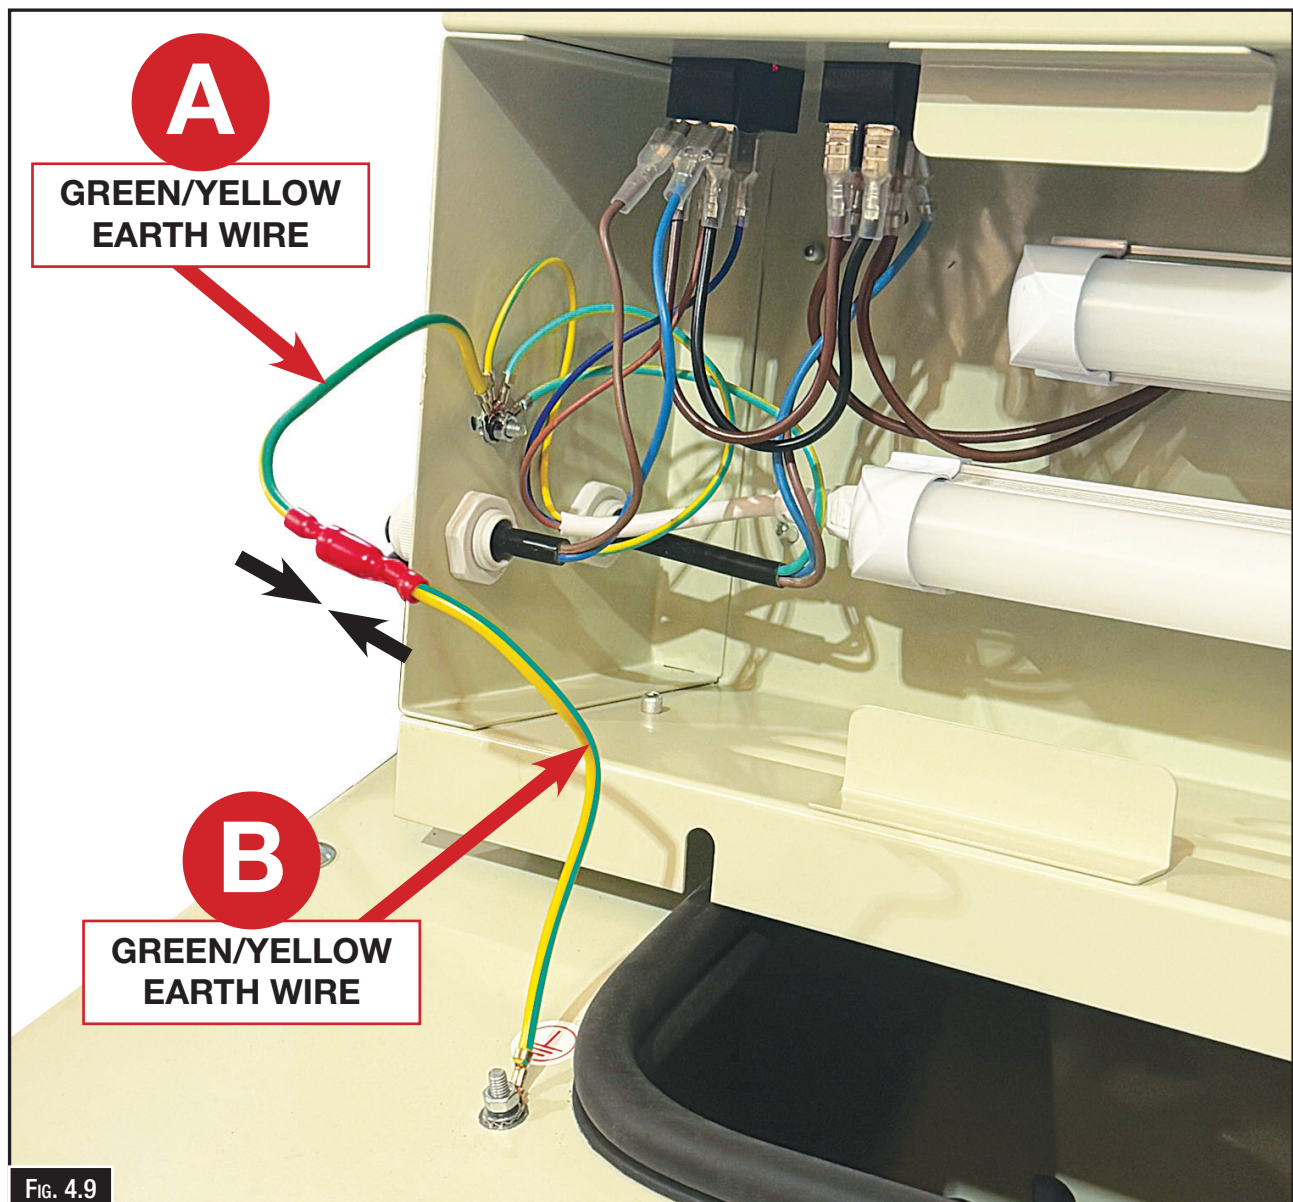

FIG. 4.9
8. Carefully place the lightbox assembly onto the top of the machine. Do not drop or force into position. Align correctly to suit the mounting points for the next steps (Fig. 4.9).
9. Connect earth wire (A) to earth wire (B) using the supplied quick-connect fittings. Push the connectors firmly together until fully seated to ensure a secure connection (Fig. 4.9).